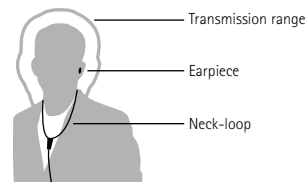
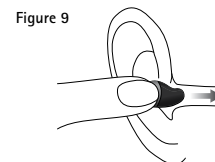

Figure 6
Figure 9
- ▶ Place the neck-loop around the neck and insure that the loop-box remains directly under the mouth (figure 6).
- ▶ As the microphone is located at the top of the loop-box (figure 6), the loop-box should be as close as possible from the mouth. To achieve this, there are several neck-loop lengths available as spare parts.
- Place a Profilo Nano earpiece in the ear (figure 9). For more information, please see the Profilo Nano user guide or contact your local representative. The audio from the radio is transmitted to the earpiece via the neck-loop (figure 6).
The transmission range is very small and remains in the vicinity of the end-user's head. (No risk of message interception.) (figure 6).